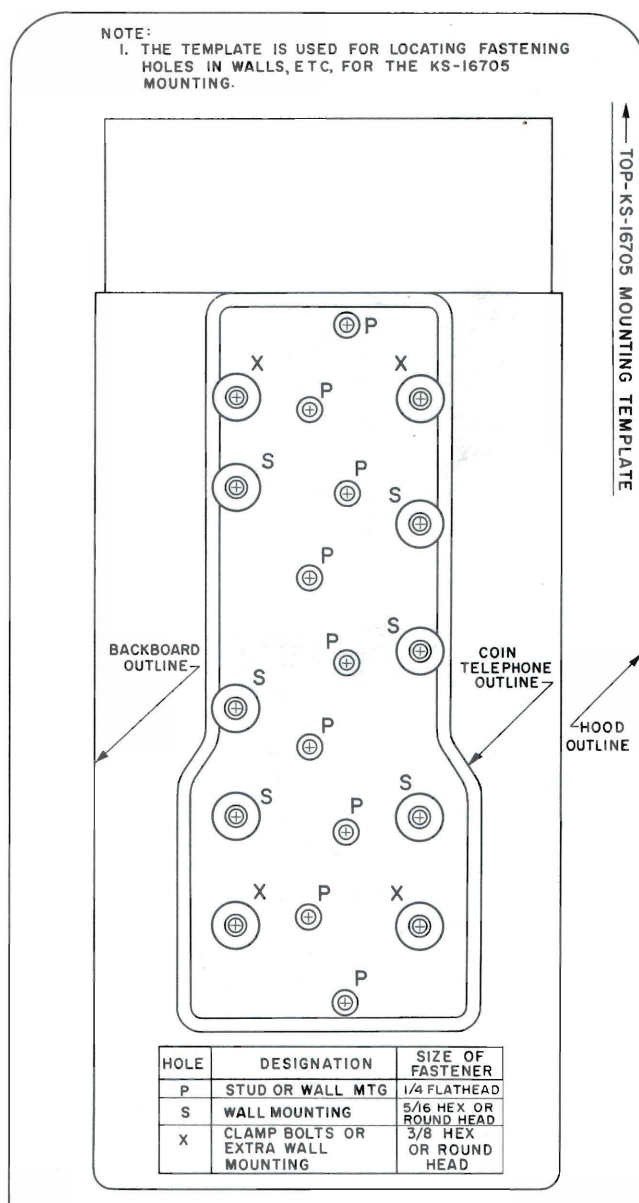

Fig. 9 — Paper Template
3.05 A paper template, B-192542, is furnished with each mounting for locating wall fastening holes (Fig. 9).